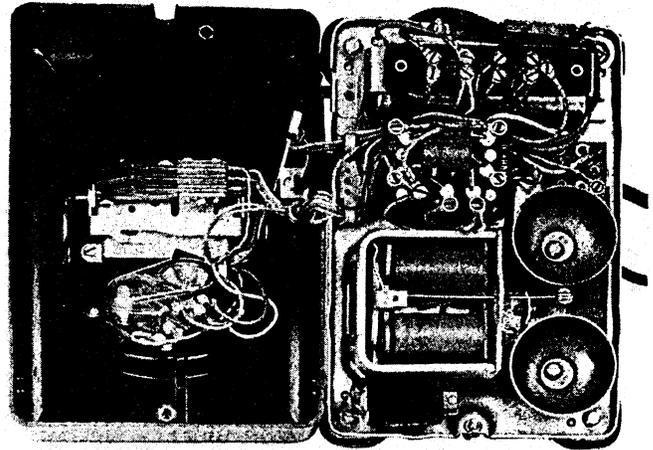

Fig. 9 — 307C Telephone Set — Interior
**2.07** The 307-type telephone set is a local battery talking, common battery signaling set. Where a common source of transmitter battery supply is used for more than one set, the 307E, F, and G sets equipped with an F2B handset are used; a battery supply filter is used in the battery supply circuit. (See Fig. 9.)